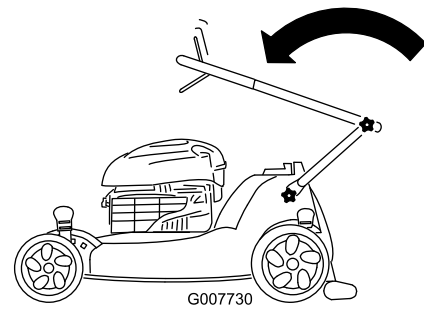

Figure 42
2. Fold the upper handle forward as shown in Figure 42.